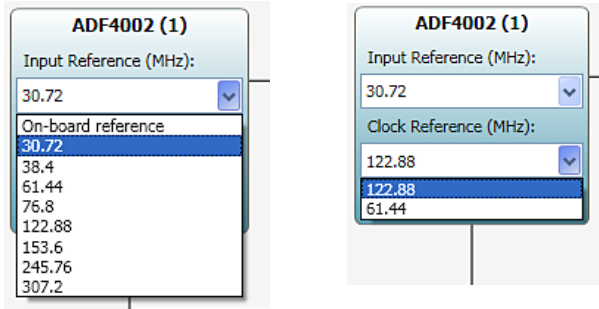

Figure 60. ADF4002 Controls
**ADF4002 (1) Controls**
The ADF4002 (1) controls include drop-down menus for the **Input Reference (MHz)** and **Clock Reference (MHz)**, as shown in Figure 60. The input reference frequency can be supplied externally at one of the rates listed in the drop-down menu or the on-board 30.72 MHz crystal reference can be chosen. Choosing one of the external frequency rates disables the on-board crystal.